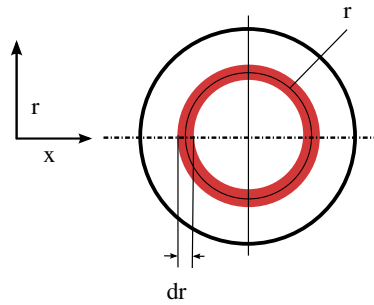

Figure 5.3: Sketch of a laminar pipe
1. we take in the radius in the middle as reference as shown in figure 5.3